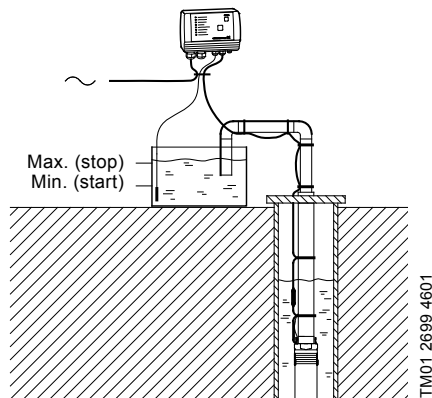

Fig. 23
- Filling means that the pump must start at a given minimum water level and stop at a given maximum water level. See fig. 23.